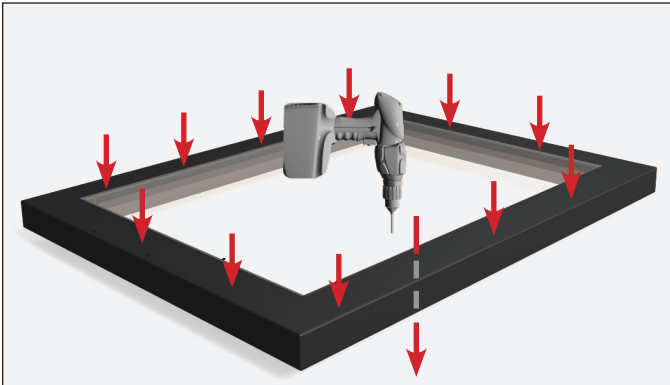

FIG. 4. Drill pilot holes THROUGH the door assembly.
5. With a 1/8" drill bit, carefully drill the pre-marked pilot holes in the door. See fig. 4.